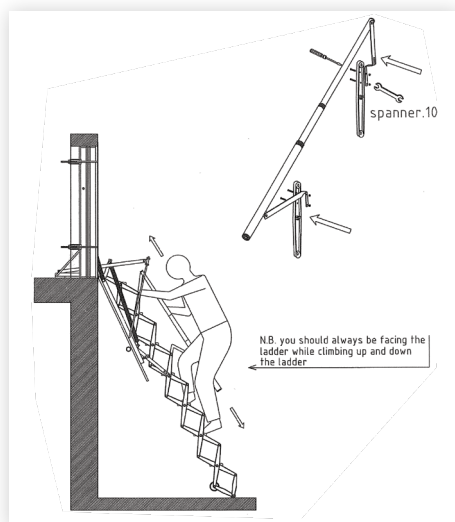

figure 10
5. In the case that you have to fit a handrail on the ladder, you will need to fit it on when the ladder is unfolded. Place the handrail next to the ramp, with the "L" - shaped lever beside the bottom pre-drilled lever and the straight lever. Once the rail is placed correctly on the ladder you will need to use a screwdriver and spanner to bolt the rail to the side of the stair. (Figure 10)